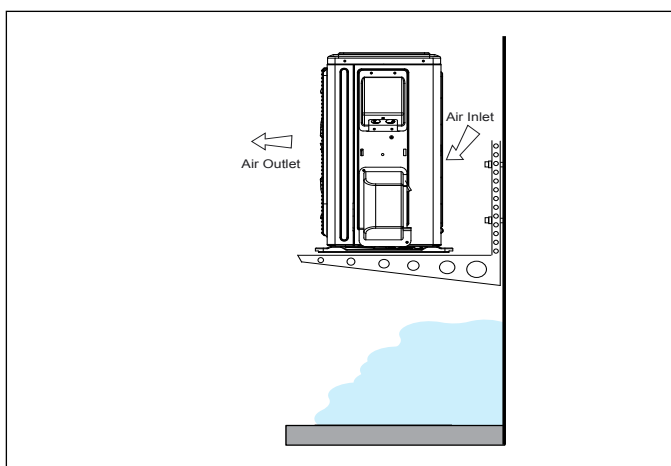

Figure 22. Outdoor Unit on Brackets above Snow Line
- The unit base should be elevated above the depth of average snows as illustrated in “Figure 22. Outdoor Unit on Brackets above Snow Line”.